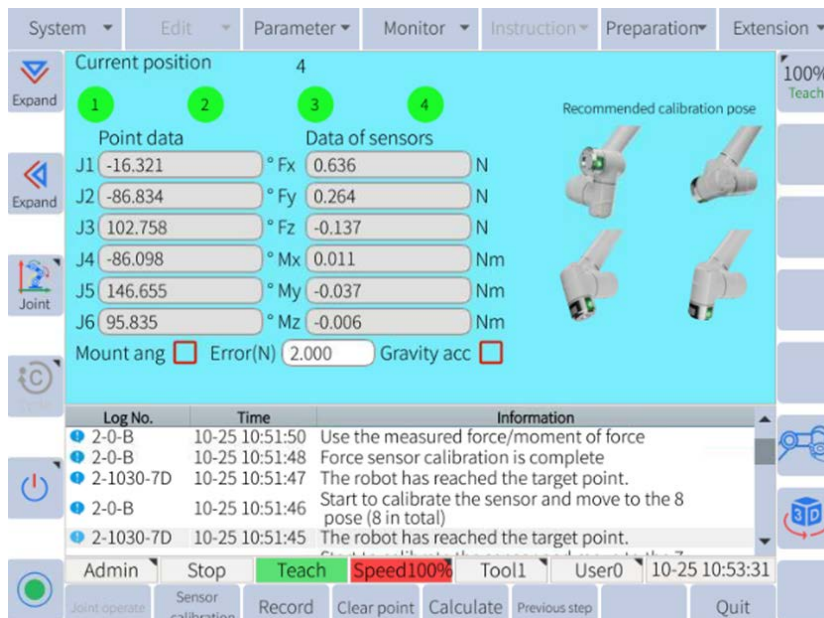

Figure 6-40: Point data recording interface
- (c) Repeat the steps above and record the position of the point 3 and 4 and the data of the force sensor. After finishing all records, the display is shown in **Figure 6-40**.